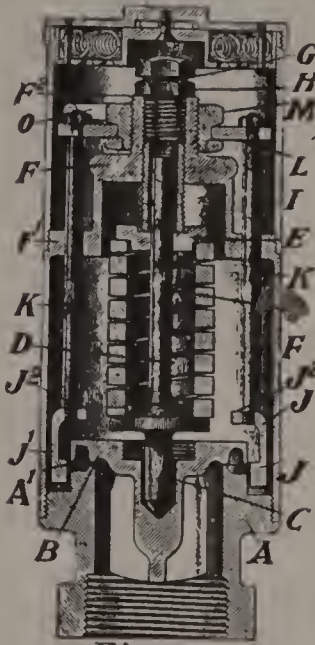

Fig. 2
A.—The muffler attachment. (Fig. 2.)